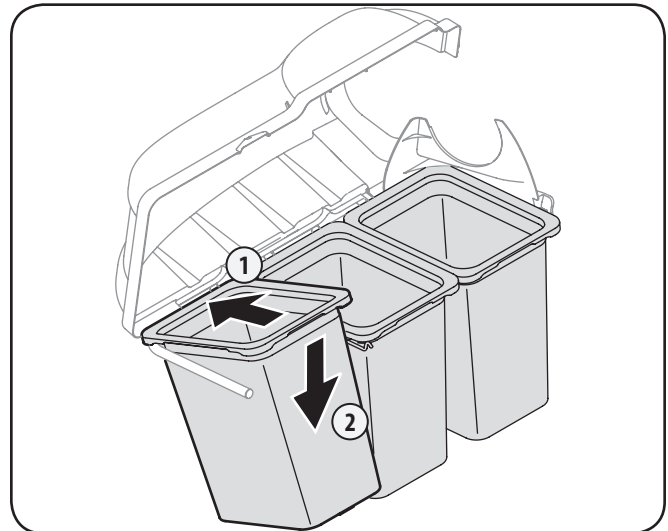

Figure 4-15
- Install the bag assemblies, with the tight mesh side facing the rear of the tractor (forward), onto the bag support brackets by inserting the front edge in first, as seen in Fig. 4-15, and setting the back edge down until it fits into the assembly.